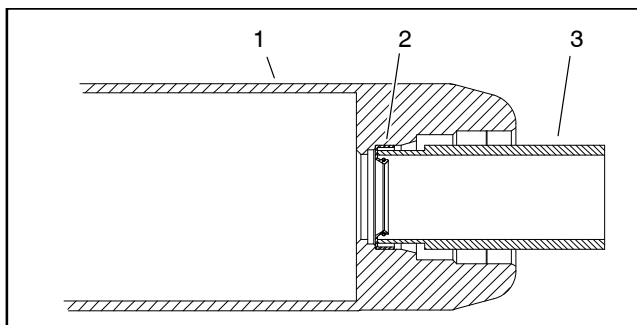

Figure 49
1. Install both inner seals into roller tube making sure that seal lip (and garter spring) faces end of tube. Use inner seal tool (see Special Tools) and soft face hammer to fully seat seals against roller shoulder (Fig. 49). Apply a small amount of grease around the lip of both inner seals after installation.